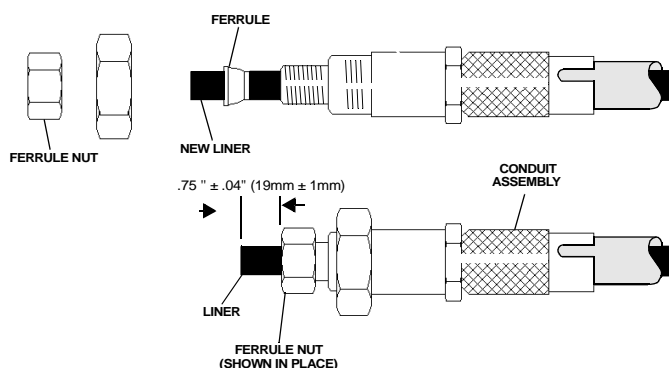

FIGURE 6.6
WIRE FEED LINER REPLACEMENT (Figure 6.6)
10. Trim liner to dimension shown in Figure 6.6.